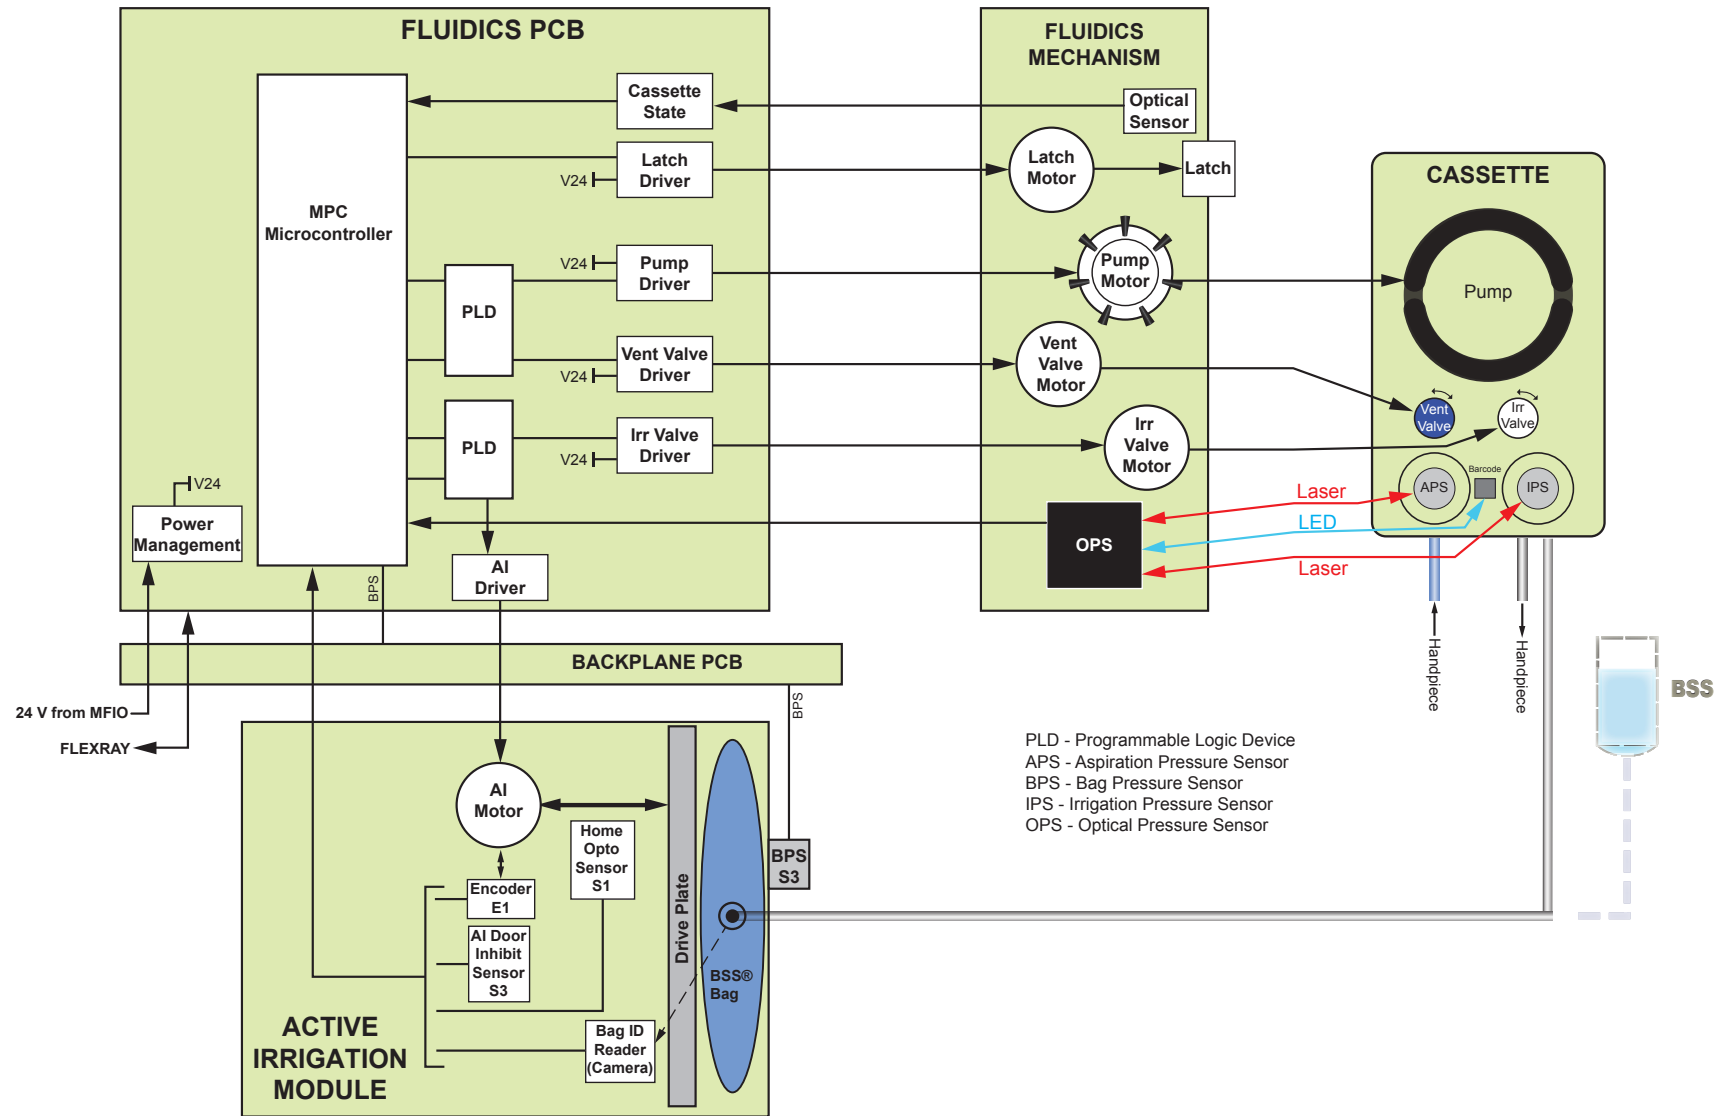

Figure 2-7 Fluidics Block Diagram
- 7.1 There are two primary functions served by the fluidics system during the surgical procedure; one is to aid in the emulsification and removal of cataract lens material, and the other is to maintain a stable work space in which to perform the surgery. A block diagram of the Fluidics System is shown in *Figure 2-7*.